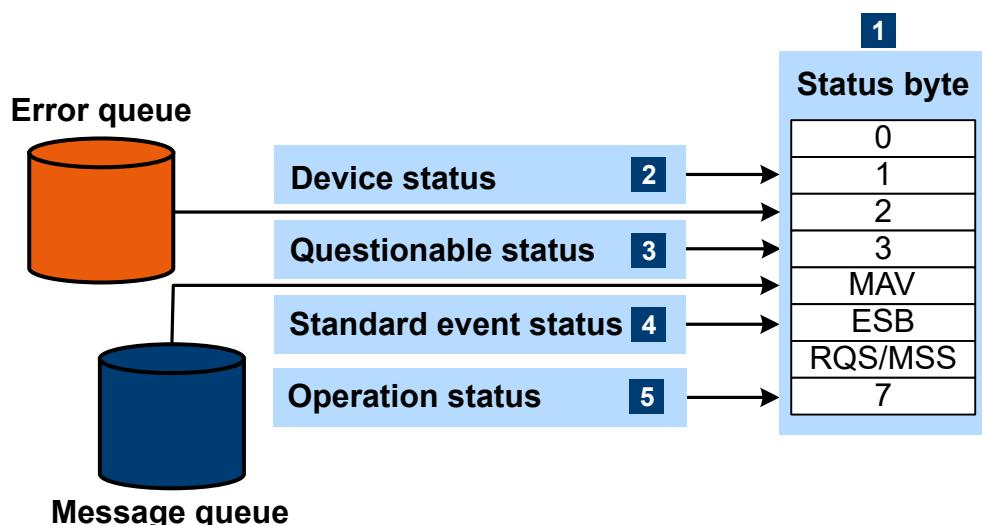

Figure 11-1: Status registers overview
Fig. 11-1 shows the hierarchical structure of information in the status registers.
- See Figure 11-1.